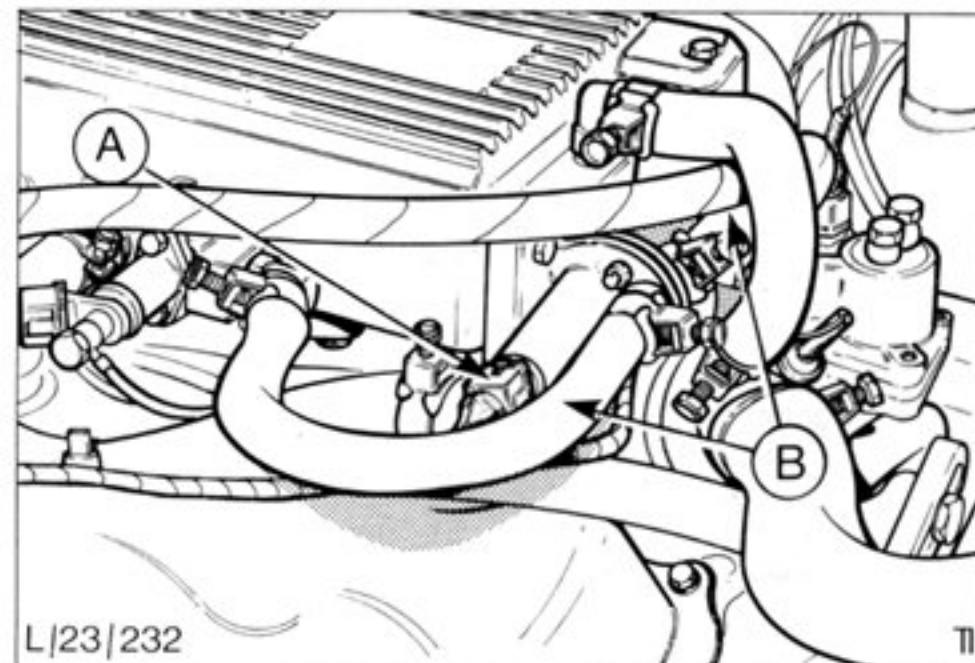

Fig.88. Auxiliary air device.
3. Disconnect electric plug and two air hoses, Fig.88.